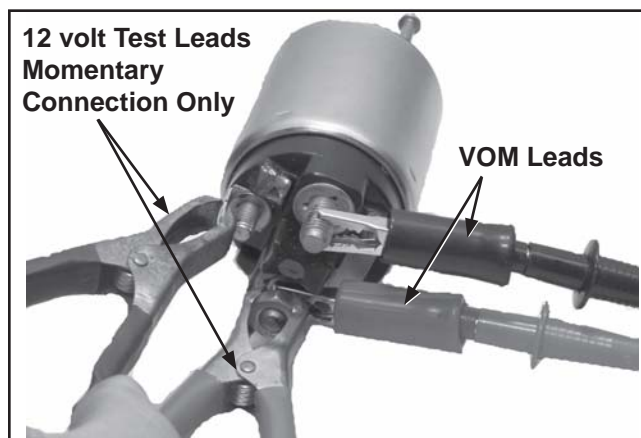

Figure 7-38. Testing Pull-In Coil/Solenoid Contact Continuity.
Use an ohmmeter set to the audible or Rx2K scale, and connect the two ohmmeter leads to the two large post terminals. Perform the preceding test (1) and check for continuity. See Figure 7-38. The ohmmeter should indicate continuity, if no continuity is indicated the solenoid should be replaced. Repeat test several times to confirm condition.